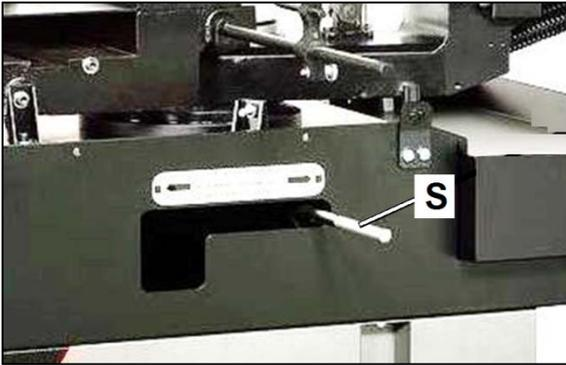

Figure 8-1: Mitre Cutting Adjustment
6. Switch off Main power (A).
7. Un-clip saw bow, by rotating the lock lever (S, Fig 8-1) to the left.